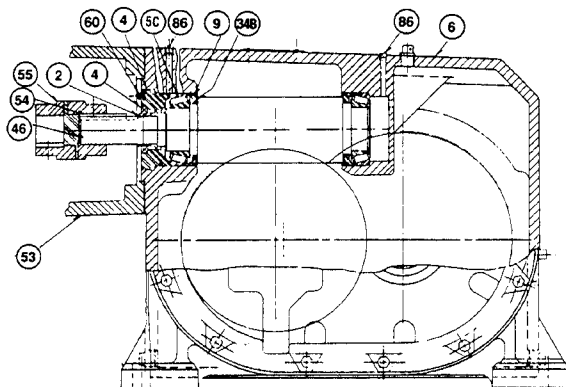

Figure 3
INSTRUCTIONS FOR DISASSEMBLY AND REASSEMBLY OF SIZE 40 & XL COMBINATION GEARMOTORS AND C-FACE REDUCERS (Refer to Figures 3, 4 & 5)
3. Remove screws holding the bearing housing (45) opposite output shaft, tap housing to loosen at the gasketed joint, then remove from the gearcase (6).
4. Lift out the output shaft assembly (17) and intermediate shaft assembly (19).
5. To remove input shaft assembly (46) loosen the bearing cap locking screw (60) (Fig. 3), install face type spanner tool in the two pin holes in the face of the oil seal bearing cap assembly (4) and unscrew counterclockwise and remove. Pull input shaft assembly including bearings (5C) and grease retainer (34B) with 'O' ring from gearcase.
Retighten bearing cap lock screw (60) (Fig. 3) to 75 inch lbs.